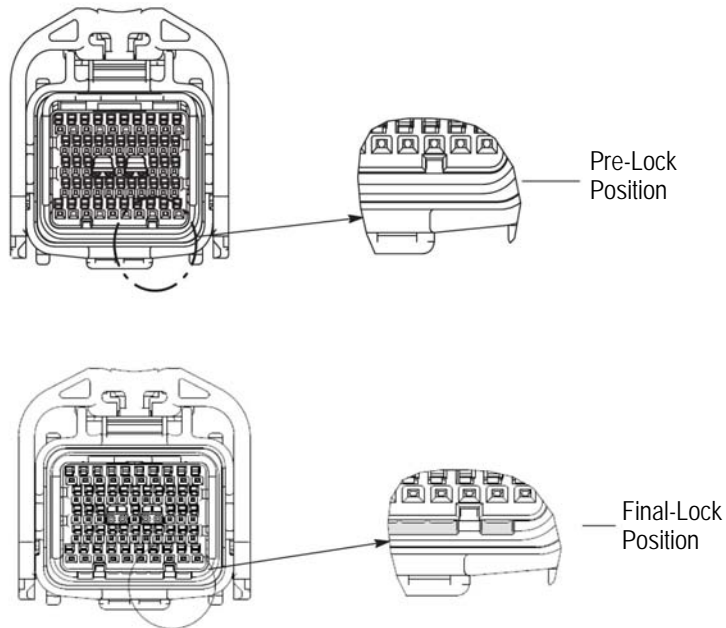

Figure 7
4. After the cavities are filled by the contacts or cavity plugs, insert the retainers into the housing (to the deep end) to complete the final lock condition. See Figure 7.
5. Be sure the retainer is inserted until a clicking sound is heard. Be sure the retainer is in a downward position, as shown in Figure 7.